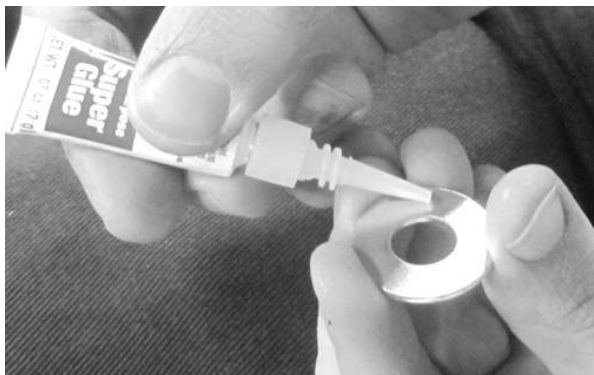

Figure 12-4
3. For each of the three holes, apply super glue to the non polished surface of the 1" (guide) washer (GE811637WB01) (see Figure 12-4).